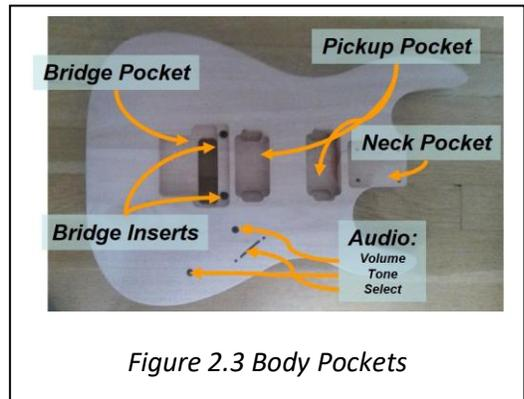

Figure 2.3 Body Pockets
Mounting the Bridge assembly (item 4 on material list) utilizes two inserts in the Bridge Pocket (Fig 2.3).